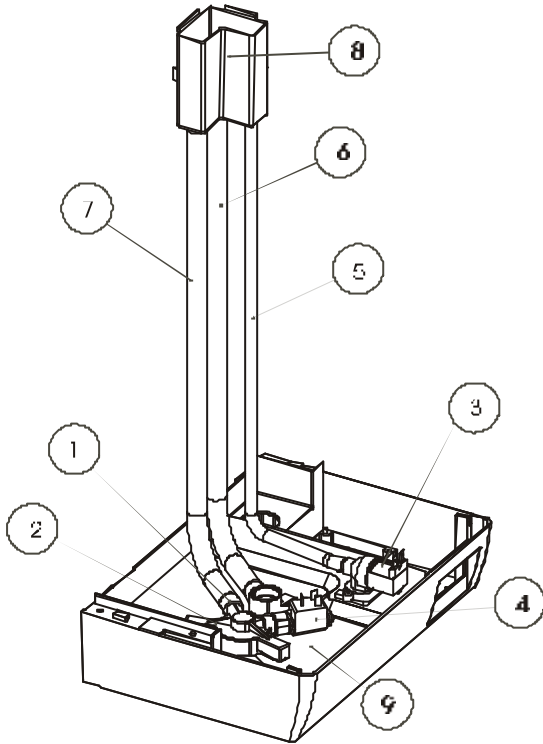

Fig. 9.2.1
- **Bottom collection tank** (Fig. 9.2.1, part no. 9)
- **Supply tank** (Fig. 9.2.1, part no. 8)
- **Supply, fill, overflow tubing** (Fig. 9.2.1, parts no. 5, 6 and 7)
- **Supply electrovalve** (Fig. 9.2.1, part no. 3)
- **Supply and drain manifold** (Fig. 9.2.1, parts no. 1 and 2)
- **Drain electrovalve** (Fig. 9.2.1, part no. 4)